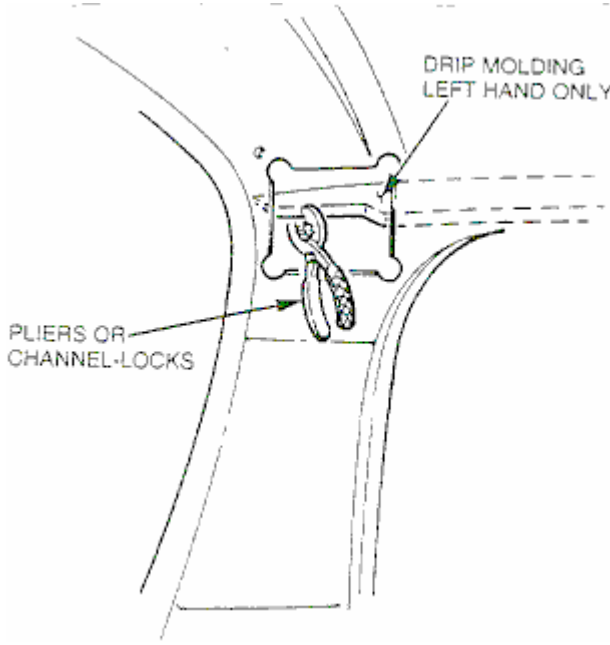

FIGURE 4
14. Use a pair of pliers or vice-grips to bend the curled down portion of the left hand drip rail straight for better access to the sail panel underneath it (refer to Figure 4).